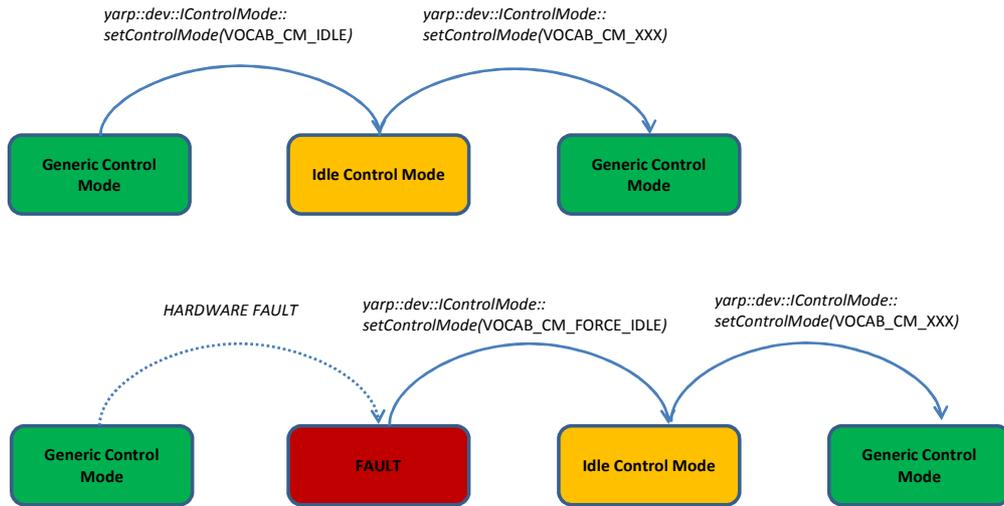

Figure 3: FAULT status and Idle Control Mode
- If a control board is faulted, the user has to send the special command `setControlMode(VOCAB_CM_FORCE_IDLE)` to reset the fault before choosing any other desired control mode (Figure 3). Requests to switch to other modalities (including `VOCAB_CM_IDLE`) are ignored. The purpose is to prevent any automatic switch (e.g. from a user software module) from the fault status to an active control status.